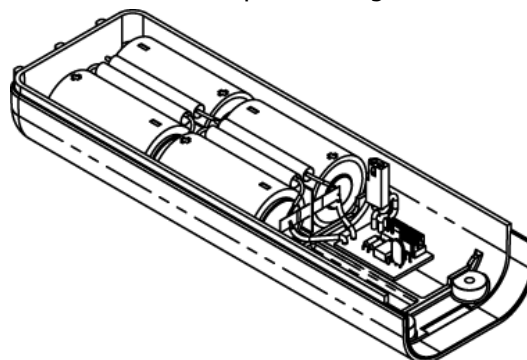

Figure 5 Battery Pack Assembly
- 4) The battery pack for the C406-N Series ELT consists of four "D" size lithium manganese dioxide cells connected in series. In an effort to increase the safety of the battery pack, a number of features were designed into the battery pack. To prevent the cells from being charged, diodes are connected across each cell and fuses are connected to the output. See Figure 5 Battery Pack Assembly.